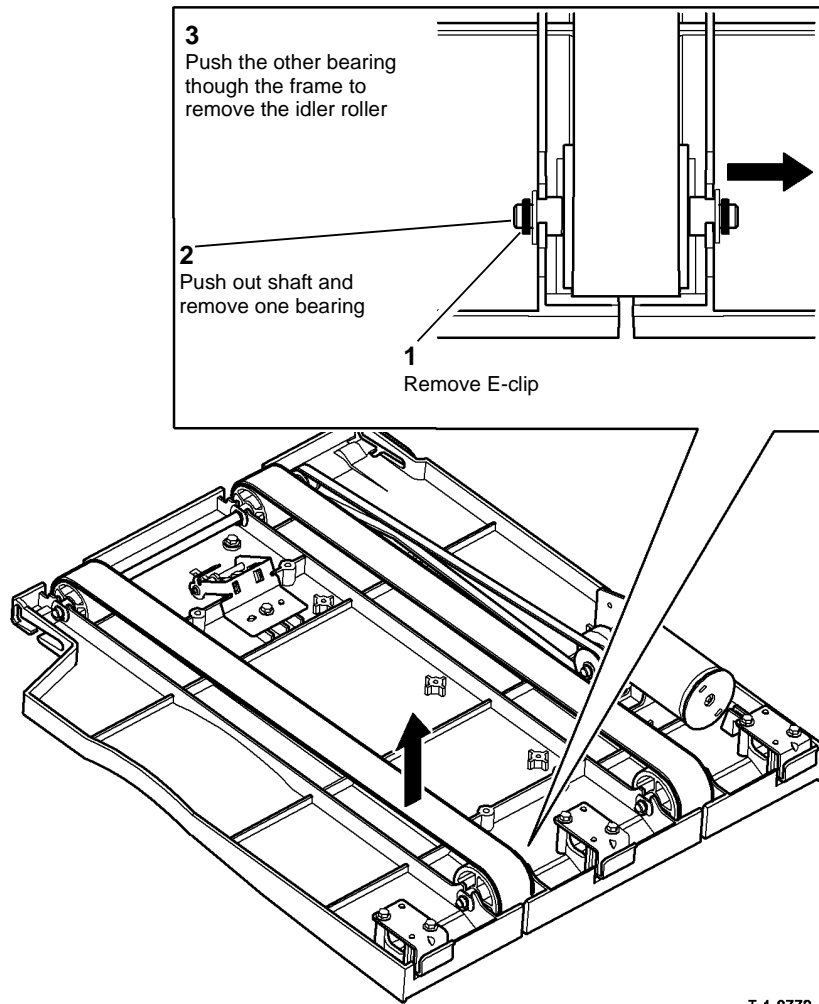

Figure 1 Idler roller removal
5. **Figure 1**, remove the idler roller.